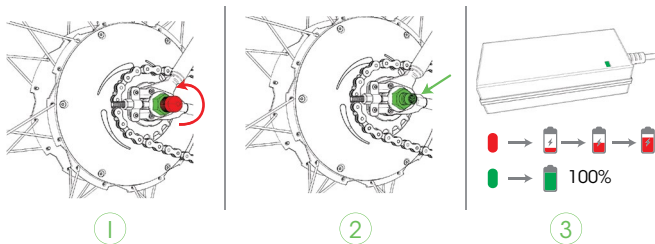

Figure 6: charging BIKE+ all in one
2.3 Charging BIKE+ all in one (see Figure 6)